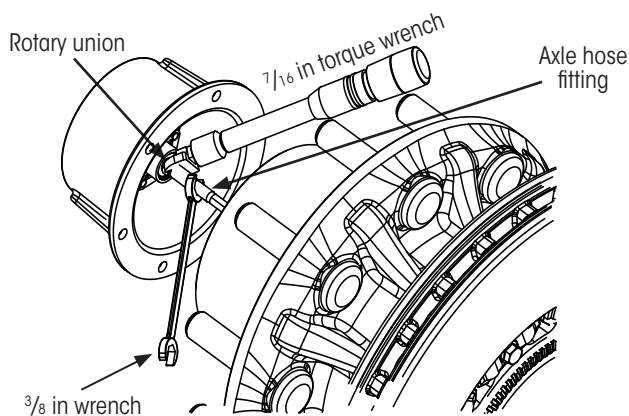

Figure 22: Hubcap to axle hose connection
1. Draw just enough axle hose out from center of spindle to **attach** axle hose fitting to the rotary union inside the hubcap (Figure 22).
4. Similarly to Figure 22, applying an inch-pound torque wrench on the $\frac{7}{16}$ inch flats on rotary union shaft and $\frac{3}{8}$ inch wrench on the flats of the axle hose fitting, **tighten** connection to 50 ± 5 in. lbs. (5.7 ± 0.6 Nm) of torque.